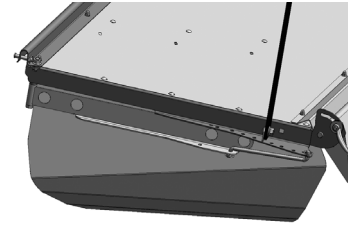

Figure 1
1) **Windrow Width Adjustment.** See Figure 1